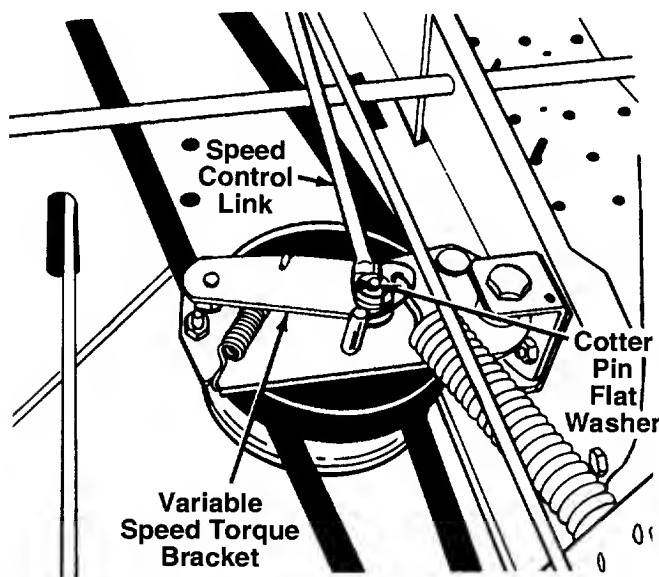

FIGURE 14.—Viewed From Beneath Tractor
9. Disconnect the speed control link from the variable speed torque bracket by removing the cotter pin and flat washer. See figure 14.